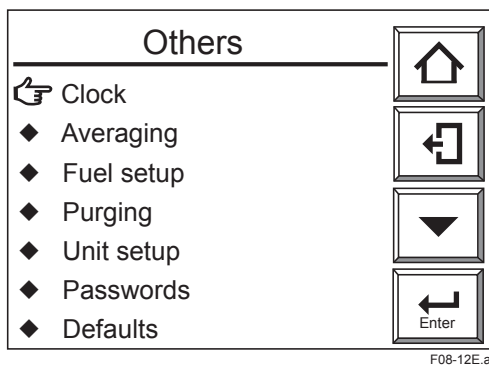

Figure 8.12 Other Settings
- 3) Select the "Others" and the display of Fig 8.12 appears.